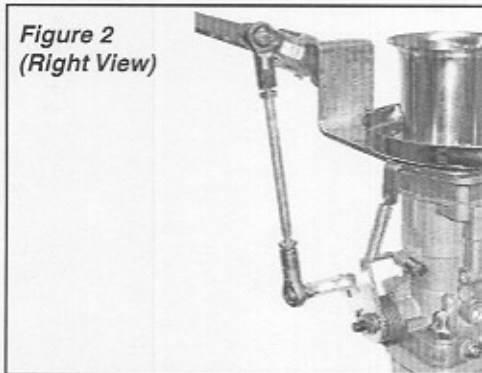

Figure 3
2. Slide the center pull-lever and the left and right extension arms onto the hex bar so there is approximately 60° between the centerline of the arms compared to the center pull lever (See Figure 3). Install retention hardware onto the parts, but **DO NOT** fully tighten at this time. Install the jam nuts onto the ball-ends and thread the ball-ends into each end of the hex bar.